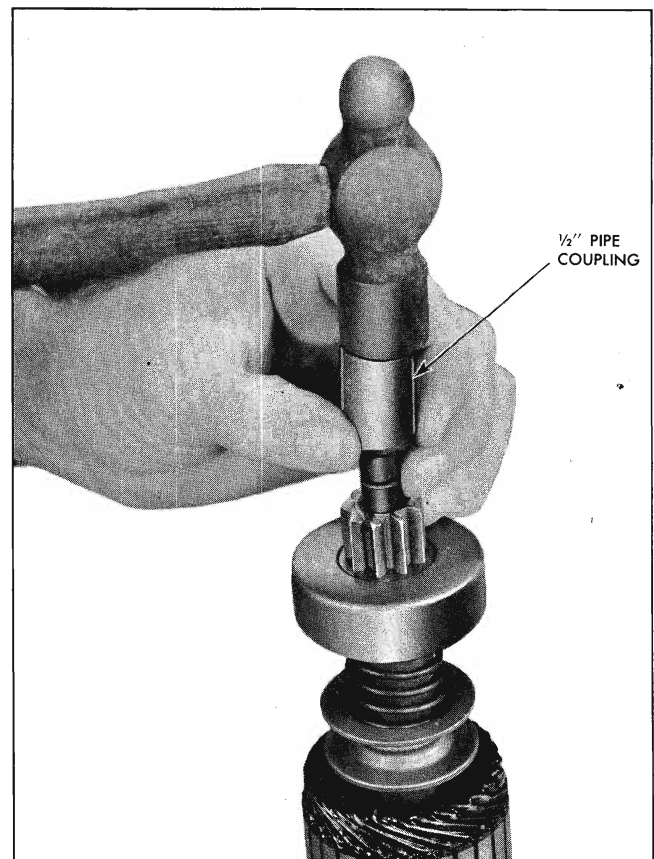

Fig. 11-39 Driving Retainer Off Snap Ring
b. Slide a standard half inch pipe coupling or other metal cylinder of suitable size (an old pinion of suitable size can be used if available) onto shaft so end of coupling or cylinder butts against edge of retainer (Fig. 11-39). Tap end of coupling with hammer, driving retainer towards armature and off snap ring.